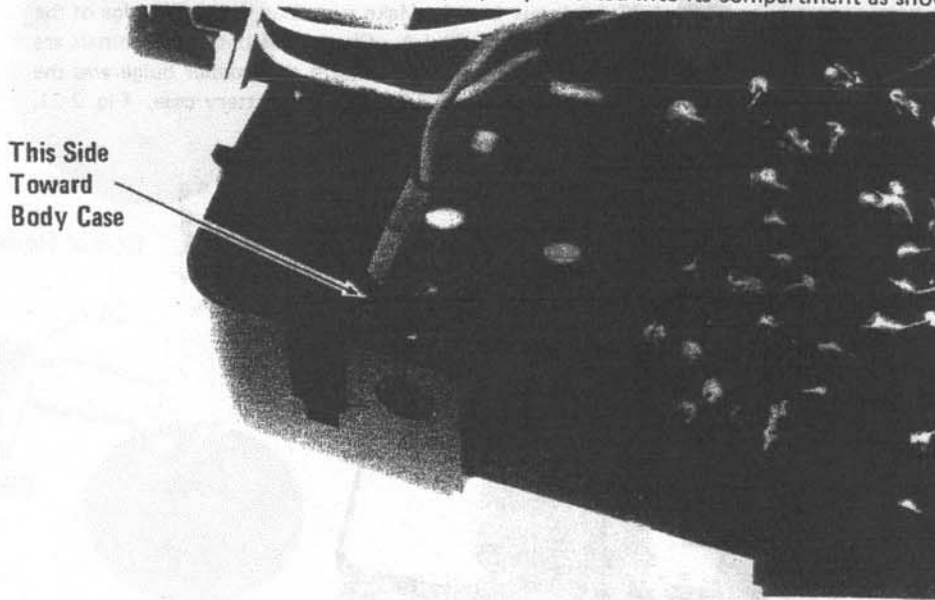

Figure 3-19. Positioning PC-1 Receptacle
C. Make sure that PC-1 receptacle is properly inserted into its compartment as shown. Fig. 3-19.